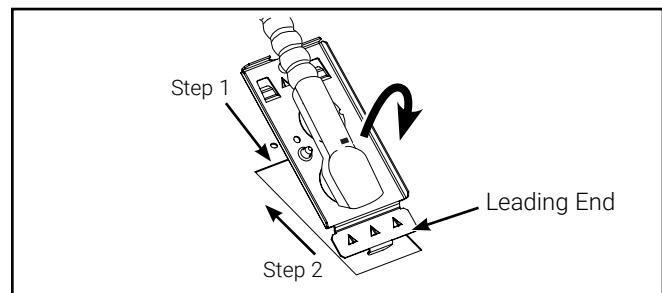

Figure 3.
- Remove electrical access plate and remove necessary knockouts from access plate for attachment of electrical supply cable (Figure 3).
- Step 1: To insert access plate, rotate until leading end is inside the wireway (Figure 3).